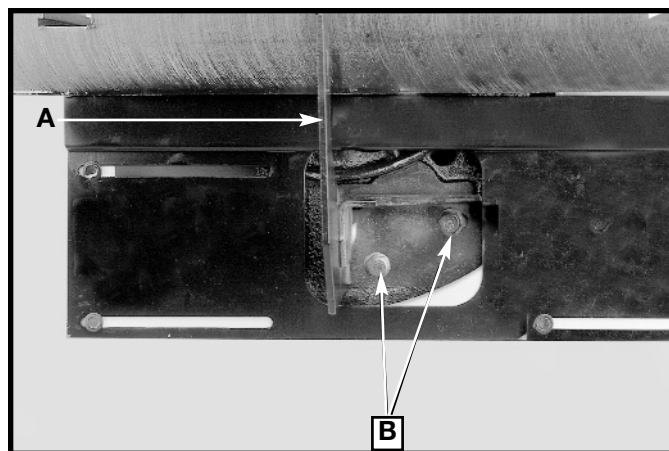

Fig. 15
1. Fasten the rear splitter mounting bracket (A) Fig. 15, to the rear trunnion on the back of the saw using the two 1/4"-20 x 3/4" hex head screws (B), 1/4" flat washers and 1/4" lock washers. Place flat washers, then lock washers onto the screw, then insert them through the holes in the splitter mounting bracket and into the tapped holes in the trunnion. Do not completely tighten the two screws (B) at this time.